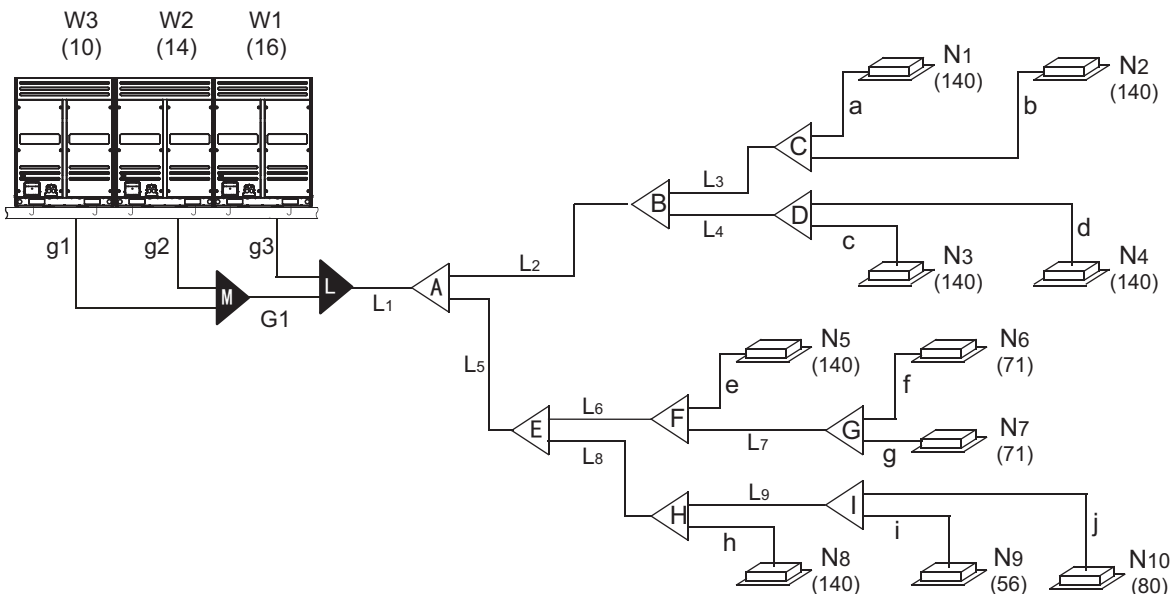

Fig.2-32
e.x.1: Refer to Fig.2-32, the capacity of downstream units to L2 is 140×4=560, i.e. the gas pipe for L2 is Φ28.6, liquid pipe is Φ15.9.
Main pipe L1 in the Fig.2-32, which upstream outdoor units total capacity is  $12 + 12 + 16 = 40$ , base on Table 2-14, the gas/liquid pipe diameter are  $\Phi 41.3/\Phi 22.2$ , total capacity of the downstream indoor unit is  $140 \times 6 + 56 + 71 \times 2 + 80 = 1118$ , base on Table 2-12, the gas/liquid pipe diameter are  $\Phi 41.3/\Phi 19.1$ , take the large one for your selection, final confirm the main pipe diameter is: gas/liquid pipe  $\Phi 41.3/\Phi 22.2$ .